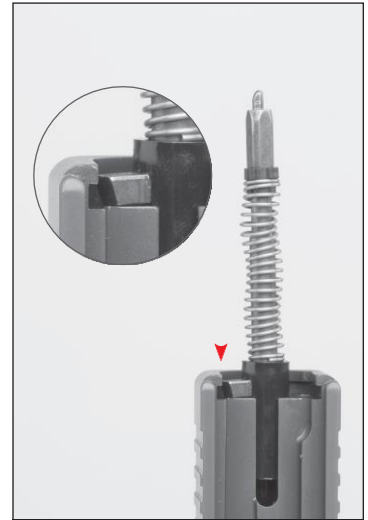

Fig. 36
- Use the slide to assist you in disassembling the firing pin assembly. Install the firing pin assembly upside down into the firing pin channel cut and turn the lug to one side. This will secure the assembly and assist you in removing the spring cups and firing pin spring. (Fig. 36)